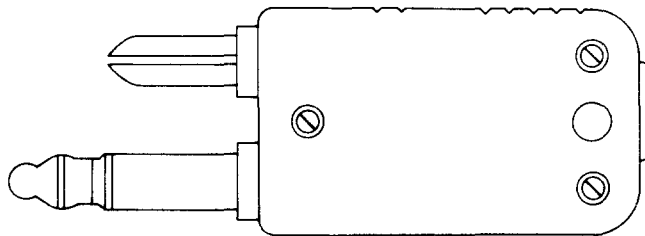

Fig. 15—420A Plug
**2.15 420A:** The 420A (Fig. 15) is a twin-plug with the long finger designed for tip and ring connection to a 280A- or similar-type jack. The short finger is designed for sleeve connection to a 240A- or similar-type jack. This plug is used in the J70099 No. 9 Telegraph Service Board.